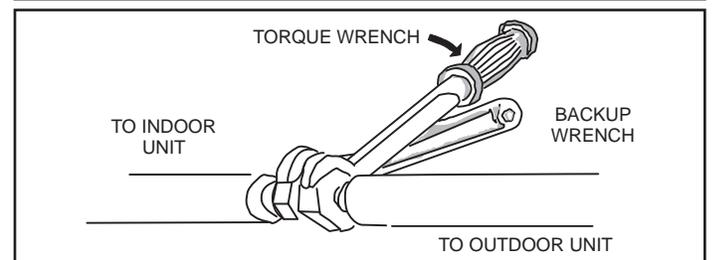
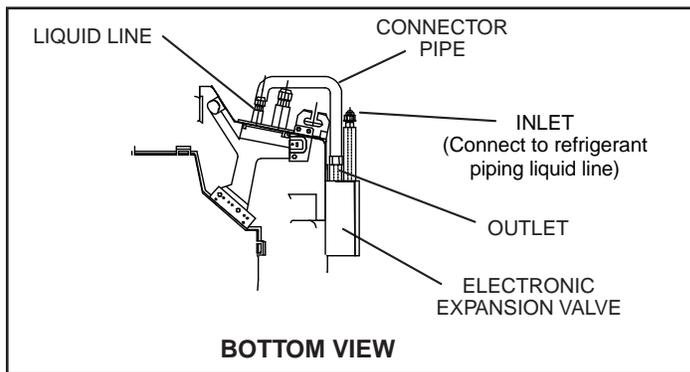

Figure 4. Tighten Flare Nut
Figure 5. Liquid Line / Expansion Valve Connector
7. Once snug, continue another half-turn on each nut which should create a leak-free joint. A torque wrench may be used to tighten flare nuts using table 2 recommendations. See figure 4. **Do not over-tighten a flared joint. Flared connections should always be accessible and must be insulated to prevent condensation.**
10. Immediately align the connector pipe with the cassette base liquid line and the electronic expansion valve connection labeled "OUTLET." See figure 5. Hand-tighten the flare nuts at first. Then, use two wrenches to continue to tighten the nuts without twisting the pipes. See figure 4. Torque requirements are given in table 2. **Again, do not over-tighten the flared joints.**